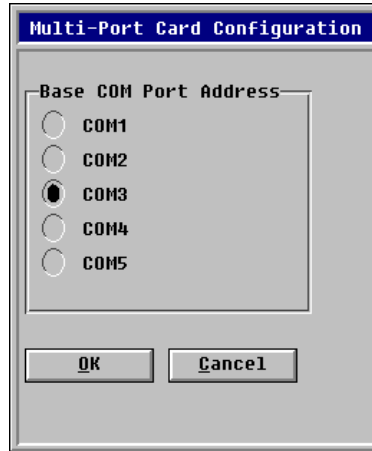

Figure 5-4 Multi-Port Card Configuration Dialog
4. Use the mouse to highlight the option, and then select the **Add** button at the bottom of the screen to configure the port controller card. The system displays the Generic Port Configuration screen shown in Figure 5-4.